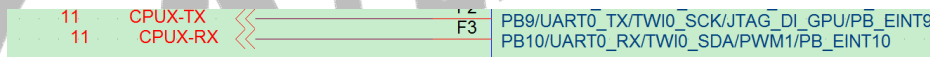

Figure 2-14 UART0 Debugging Serial Port
- The UART0 is used for system debugging and printing by default. It is recommended to reserve test points for system debugging and printing. As shown in Figure 2-14.